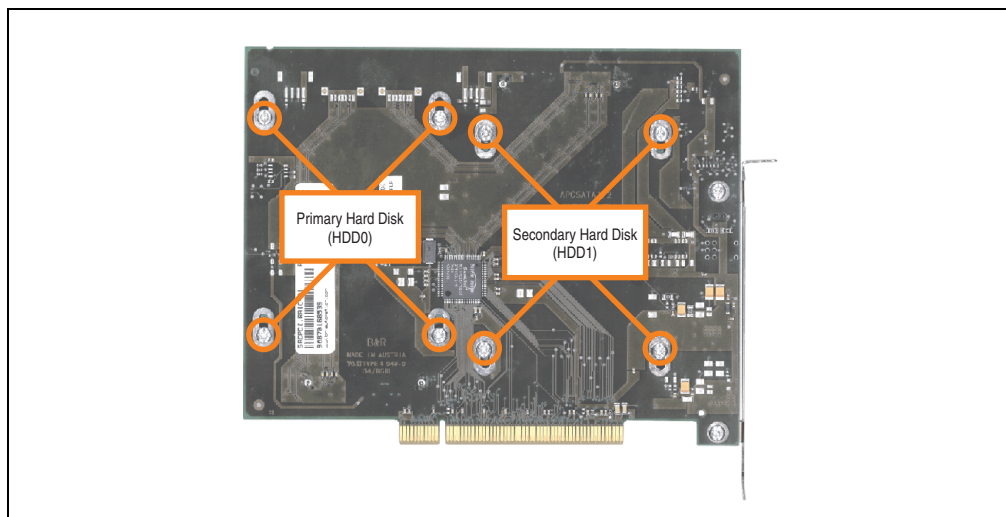

Figure 323: Screw assignment on the back side of the SATA RAID controller
- Loosen the 4 appropriate mounting screws (M3x5) - see Figure 323 "Screw assignment on the back side of the SATA RAID controller", on page 545.